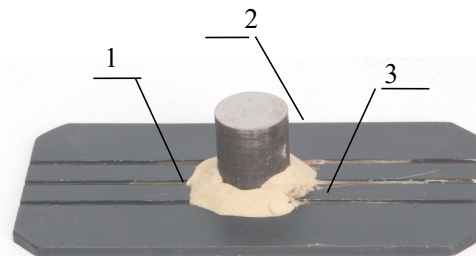

Fig.18
1. Fix the specimen (Fig. 18, ②) in the sample board (Fig. 18, ①) with the rubber(Fig. 18, ③), to ensure that the specimen plane parallel to the sample board. Choose the flattening machine to flatten specimen (Fig. 19).